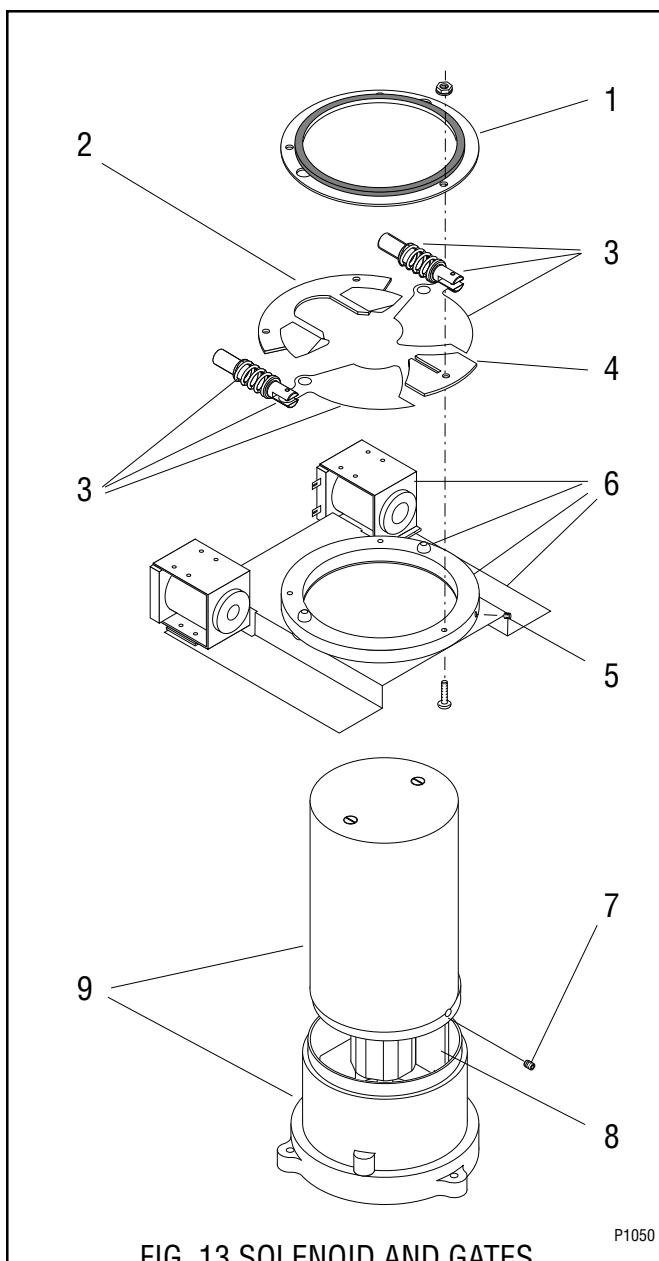

FIG. 13 SOLENOID AND GATES
22. Remove the two #8-32 flat head screws securing the motor cover (18) to the motor and housing assembly (17) and remove the cover. Set aside for reassembly.
24. Place new motor on it's side and install motor cover (18) using two #8-32 flat head screws.
25. Install upper burr (16) to the new motor and housing assembly (17) using two #10-32 binding head screws.
26. Install spring retaining bushing (15) on motor shaft.
27. Refer to Fig. 13. Install burr housing divider (8) in slot in the burr housing and secure with #8-32 cup point setscrew (7), for Model LPG-2E only.